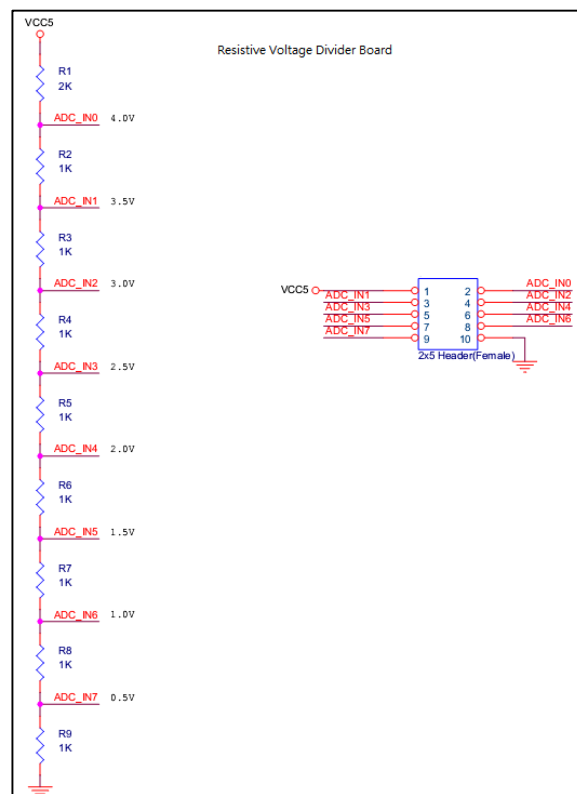

Figure 4-9 The additional voltage divider board is set up for the ADC_RTL demonstration
1. First, prepare an additional voltage divider board, as shown in **Figure 4-9 The additional voltage divider board is set up for the ADC_RTL demonstration** 錯誤! 找不到參照來源。 . Then, plug it into the J4 header on the DE23-Lite.